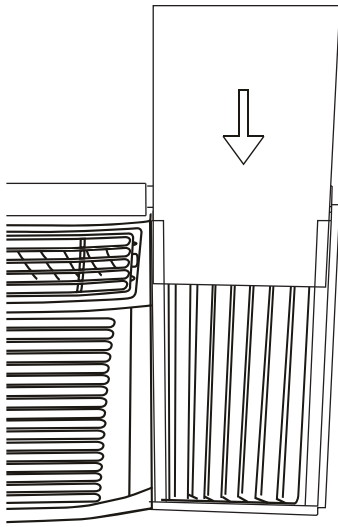

Fig.13
Step 3. Slide the R1 insulation panel into the side curtain, the side with pattern should facing the indoor side.(Fig.13)